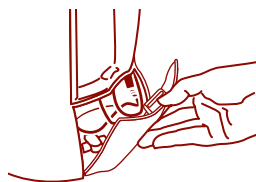

Figure 2
3. Remove the Cord Storage Door by pushing down on the release tab located on the Cord Storage Door. Remove the power cord and plug the unit into a standard 120 Volt wall socket. Replace the cord storage door and position the power cord in the slot below the cord storage release tab. *Figure 2*